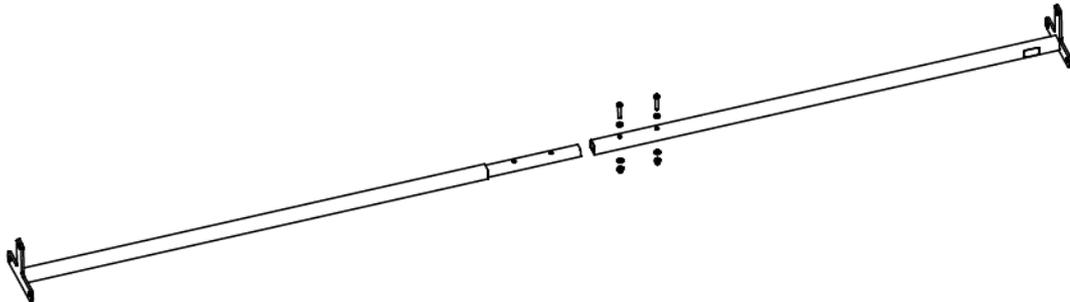

Figure 2: Assembling the middle tubes
Connect the middle tubes ②, ③, ④ and ⑤ as shown in figure 2 and screw together using the hexagon socket round-headed bolts ⑧, the washers ⑭ and dome nuts ⑪.